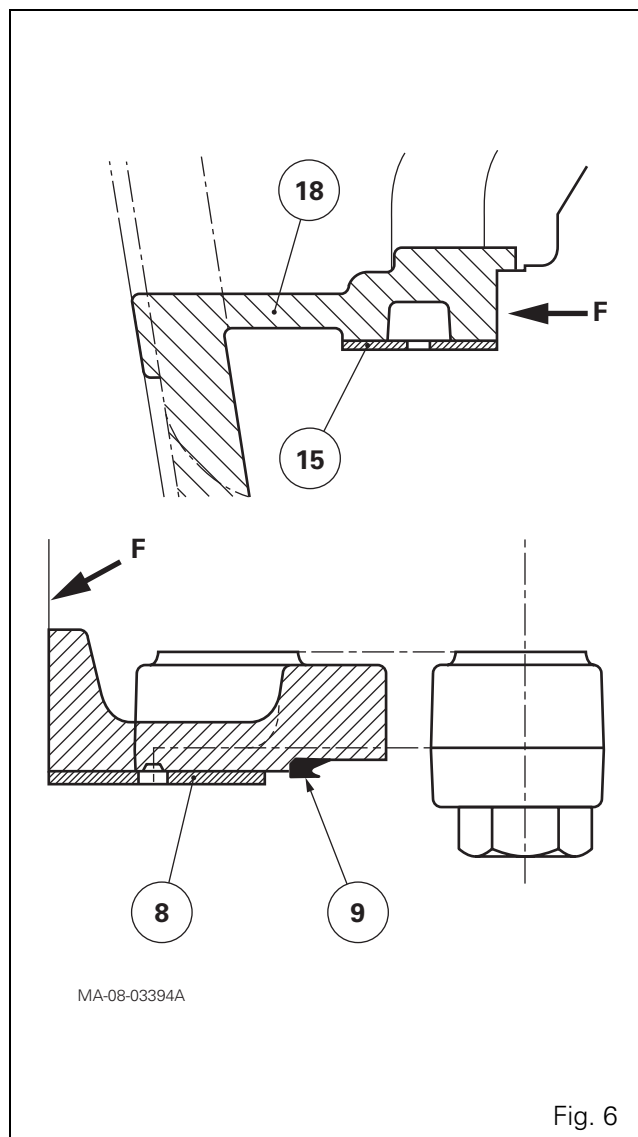
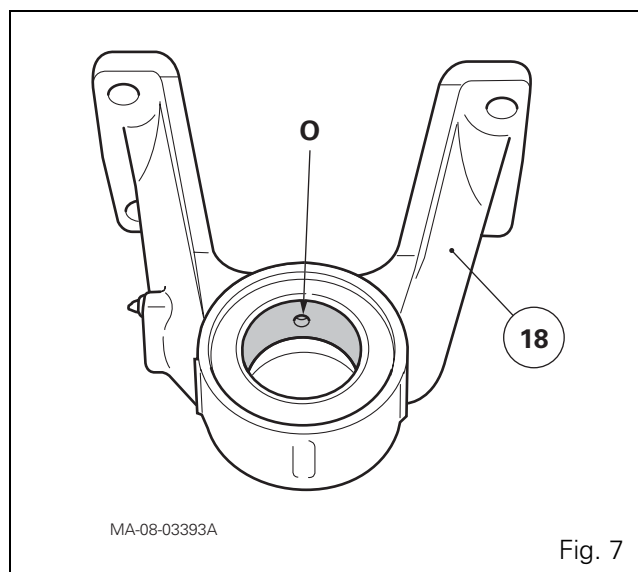

Fig. 6
Fig. 7
19. Clean the components. Using a press and a suitable fitting, fit the ring into the bearing level with face F (Fig. 6), with port "O" turned upwards (Fig. 7) and aligned with the lubrication port.
20. Fit the ring into the rear bearing using the same method as for the front bearing (Fig. 6).
21. Position the seal (9) up against the shoulder of the bearing (Fig. 6).